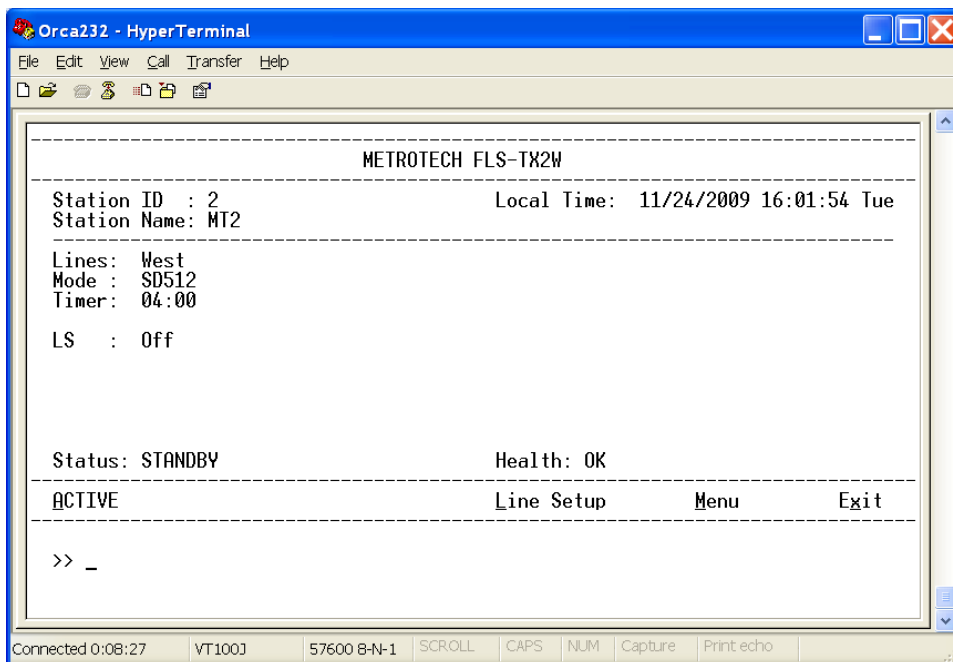

Figure 6-48 Main Operating Screen (Standby Mode)
2. After connecting to the transmitter by using a terminal emulator, such as HyperTerminal, press ENTER to go to the Main Operating screen. To select a command, press the underlined letter or number for that command. Figure 6-48 shows the Main Operating screen.